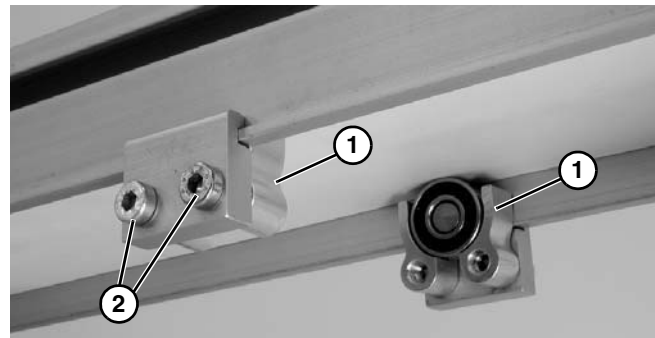

Figure 15
3. Install roller assemblies (**Figure 15, item 1**) as shown. Tighten screws (**Figure 15, item 2**) to 60 in-lb (7 Nm).